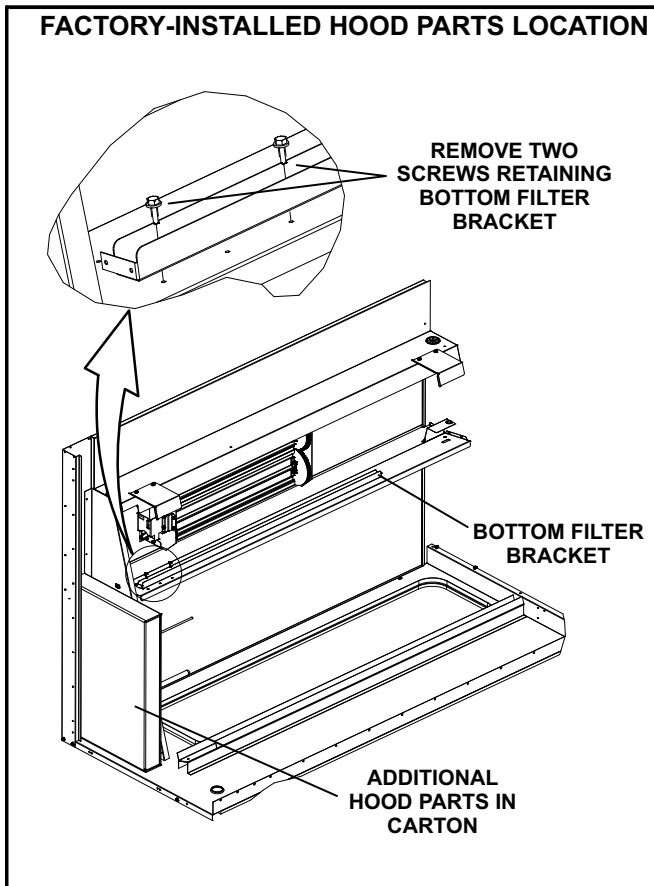

FIGURE 1
*When outdoor air assembly is factory-installed, outdoor air hood parts are packaged separately and shipped in the filter compartment. See figure 1.